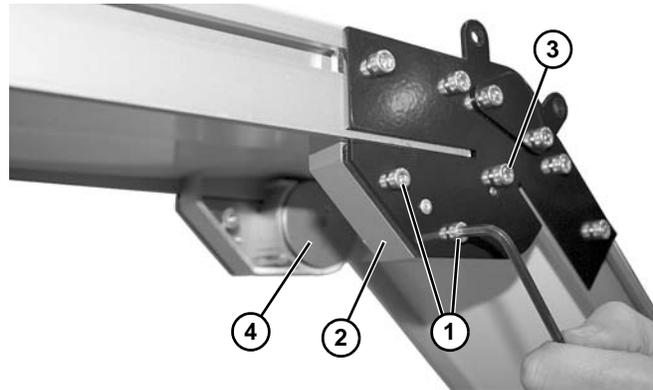

Figure 134
- If equipped with an upper knuckle, remove screws (**Figure 134, item 1**) and remove guard (**Figure 134, item 2**) on both sides of knuckle.
- Remove screw (**Figure 134, item 3**) and remove roller bearing assembly (**Figure 134, item 4**) on both sides of knuckle.